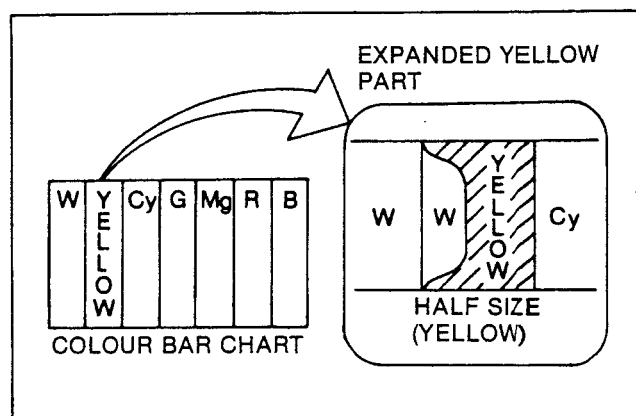

Fig. C28
- (1) Aim the camera at the Colour Bar.
- (2) Set the horizontal picture frame to 40usec, and memorize the level of Yellow part.
- (3) Set the horizontal picture frame to 16usec. (Expand the Yellow part.)
- (4) In case that the level of Yellow part is more than 50% compared with the Yellow level of when horizontal picture frame was 40usec, adjust the VR309 (High cut control) so that the level of yellow becomes 50% as shown in Fig. C28.
- (5) In case that the level of Yellow part is already less than 50% of when the horizontal picture frame was 40usec, adjust the VR309 until before just Yellow part begins to disappear.